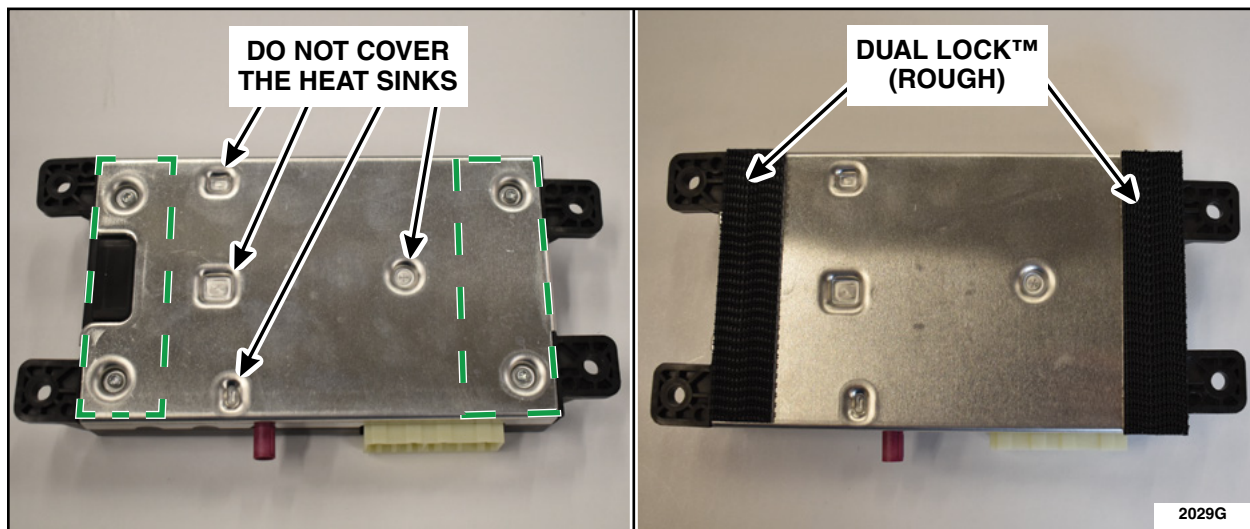

FIGURE 8
9.TCU Preparation. See Figure 8.